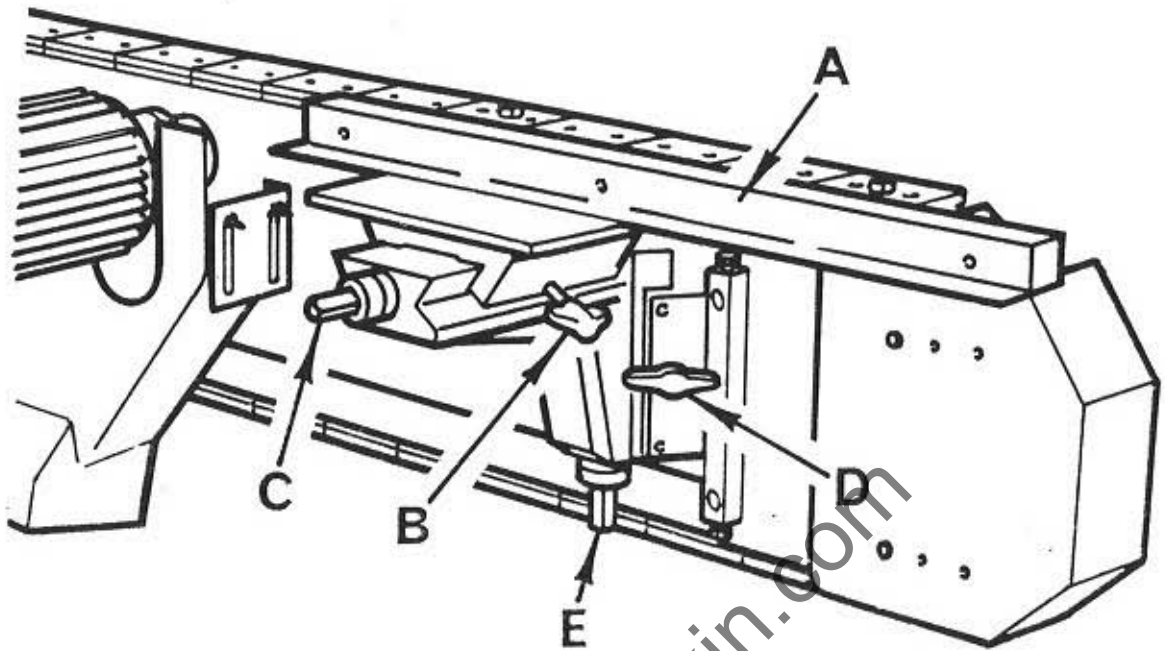

Fig 21
9. Set fence "A" in FIG 21 to guide the timber into the machine.